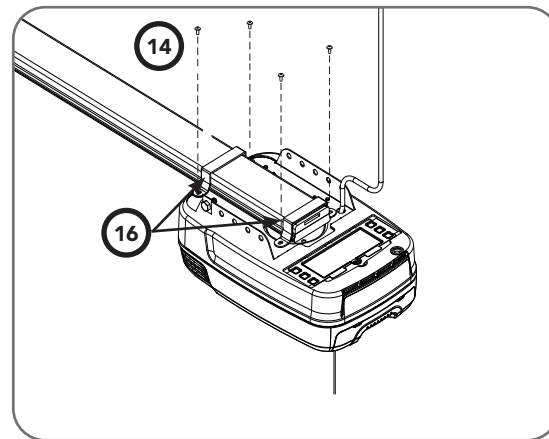

Fig.6.1.2
- Fix the two track brackets (16) with four (4) M4 x 8 screws (14) supplied in accessory pack (Fig 6.1.2).